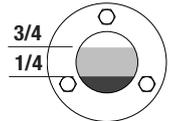

figure 1
- put the compressor on a horizontal surface and verify that the lubricant level is between 1/4 and 3/4 of the sight glass (see figure 1)